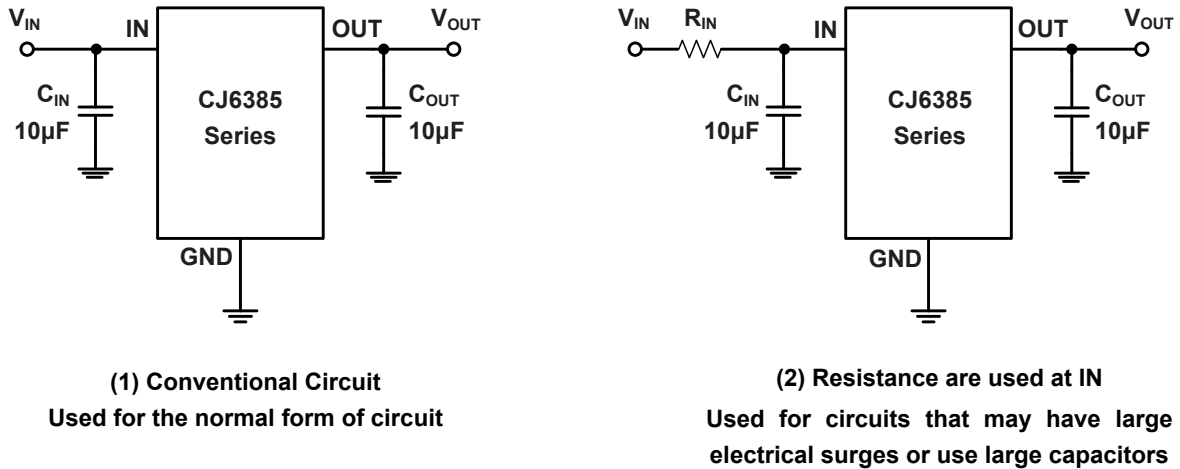
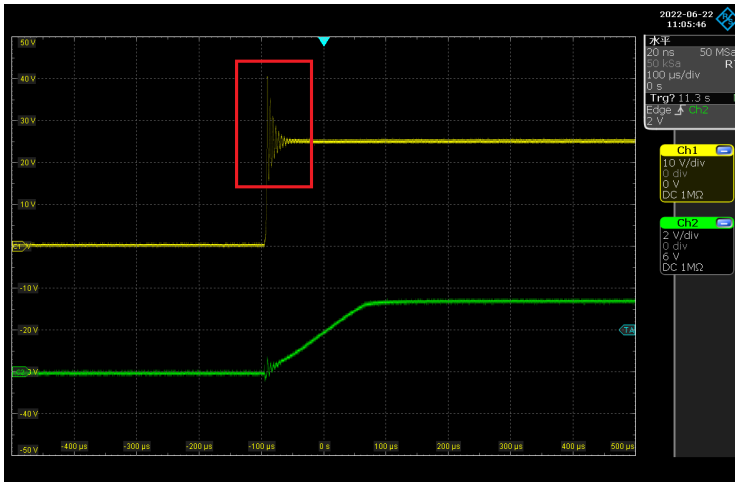
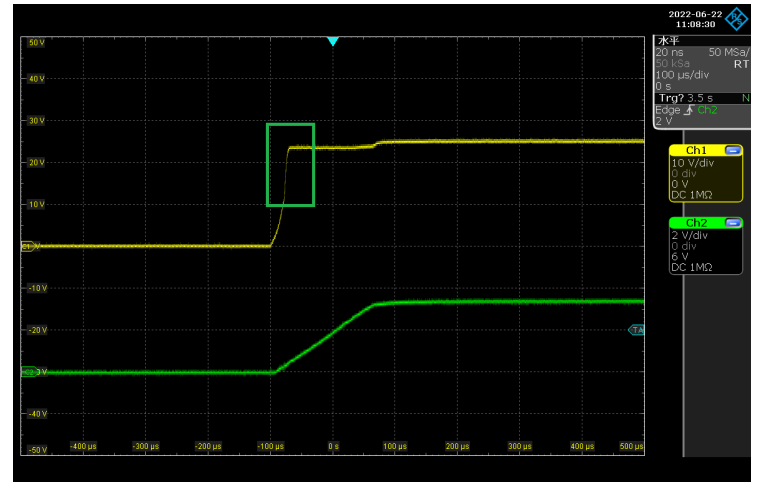

Figure 9-1. Fixed Output Regulator
Figure 9-2. Test with The Conventional Circuit [Figure 9-1-(1)]
Figure 9-3. Test with the Circuit that 5Ω Resistance are used at IN [Figure 9-1-(2)]
In the practical application of the circuit, place a resistor with appropriate resistance in series before the IN of the voltage regulator, which can help the voltage regulator share part of the energy in case of surge. The resistance value of the resistance should not be too large. The specific resistance value depends on the application of the circuit. Generally, the resistance value of this resistance does not exceed 20Ω. As shown in Figure 9-1-(2).
For the CJ6385 series, it is recommended that the input voltage should not exceed 20V and the peak voltage should not exceed 40V. **When the input voltage is greater than 20V, or the peak voltage that may be greater than 40V may appear in the practical circuit, it is recommended to adopt the circuit layout shown in Figure 9-1-(2) in the circuit design.**
The CJ6385 series can obtain better transient response with the help of output capacitance. However, if the output capacitor is relatively large, the surge current generated by the charging of the output capacitor will also be large at the moment of power on of the regulator, and the large surge current passing through the regulator may damage the internal circuit. When the output capacitance is large, adopting the circuit design shown in Figure 9-1-(2) will reduce the possibility of damage to the device due to large surge current to a certain extent. It is recommended that the selection of output capacitor should not exceed 20µF. **If the selection of output capacitor exceeds 20µF, it is recommended to adopt the circuit design in Figure 9-1-(2) to reduce the possibility of accidental failure of the device due to large surge current during power on.**
Figure 9-2 and Figure 9-3 show the impact of not using  $R_{IN}$  [Test circuit is shown in Figure 9-1-(1) ] and using  $R_{IN}$  [Test circuit is shown in Figure 9-1-(2) ] on suppressing surge voltage.
As shown in Figure 9-2., when the input is powered on from 0 to 25V, a very high peak voltage (shown in the red part) is generated in front of the input terminal of the device, and the maximum peak voltage is far more than 25V. When  $R_{IN}$  is used, as shown in Figure 9-3., the peak voltage generated by power on is effectively suppressed (shown in the green part).
The CJ6385 series requires a capacitor of  $1\mu\text{F}$  or greater ( $10\mu\text{F}$  is recommended for  $C_{IN}$ ) to be connected between OUT and GND to maintain stability. Ceramic or tantalum capacitors can be used. The larger the capacitance, the better the transient and noise performance. However, when the input capacitance is large, the circuit shown in figure 9-1-(2) may be required. See *Large Output Capacitance* for details.